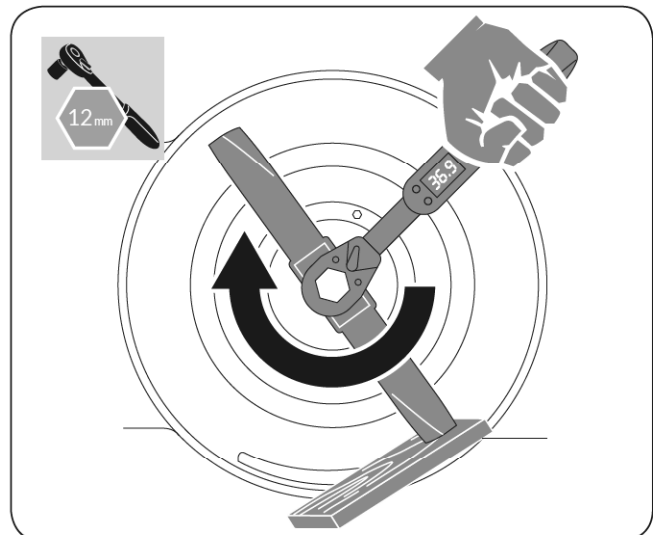

Figure 40
5. Install the new blade. Use a block of wood between the blade and lawn mower housing and tighten the blade bolt, turning clockwise. The recommended tightening torque is 45-50 Nm. (33.3-36.9 ft.-lb). (See **Figure 40**)